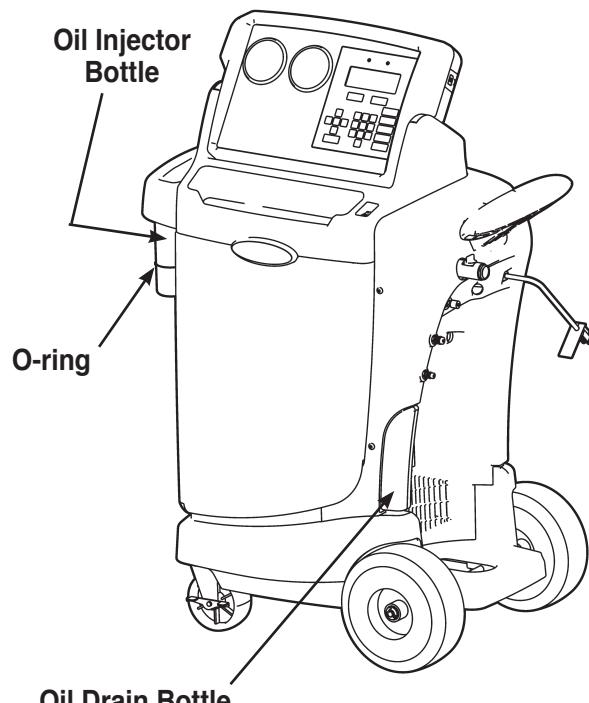

Figure 7
2. Check the oil drain bottle to determine the amount of oil that was removed. See Figure 7.